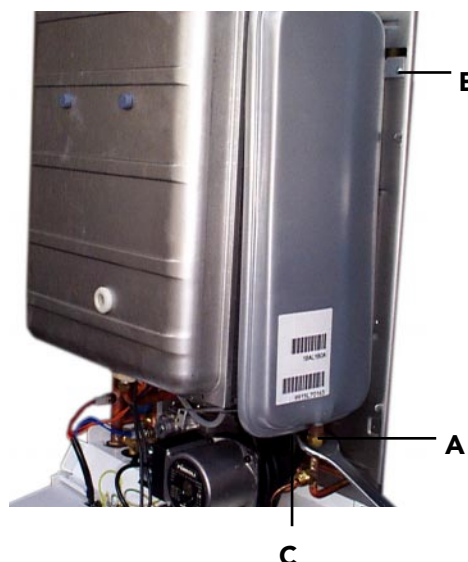

Fig. 35
7.04 Remove and re-pressurising of C.H. expansion (fig. 35)